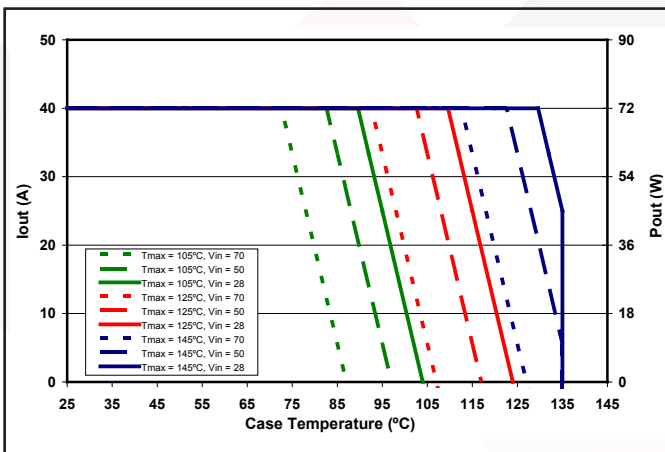

Figure 5: Output Current / Output Power derating curve as a function of  $T_{case}$  and the Maximum desired power MOSFET junction temperature (see Note 14).
2. Derate output power for continuous operation per Figure 5.